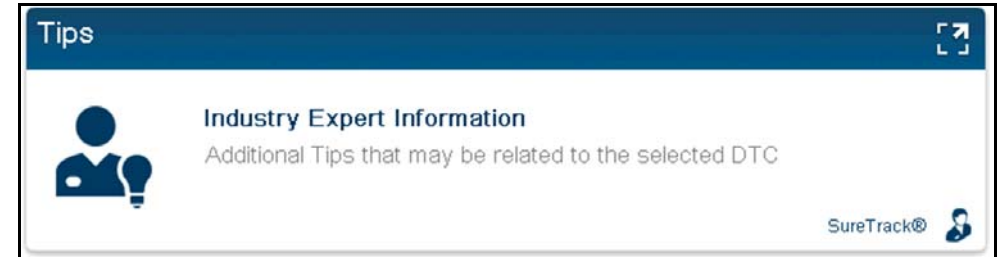

Figure 5-13
- Scroll down and select the **Tips** card (Figure 5-13).